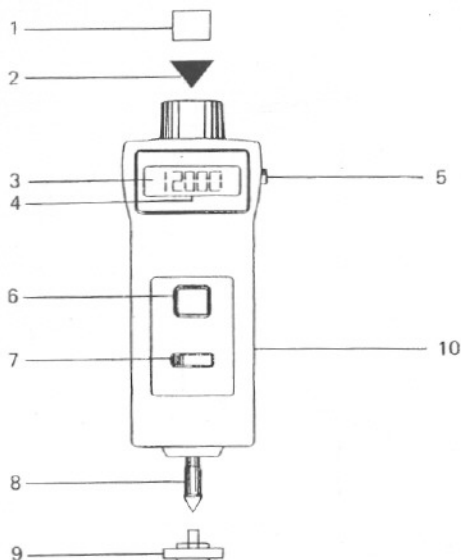

Figure 1
- (1) When it is necessary to replace the battery (battery voltage less than approx. 4.5V), "LO" will appear on the display.
- (2) Loosen the screws of the battery cover 4-10 (fig. 1), remove cover and remove the batteries.
- (3) Install fresh batteries correctly into the case. Replace battery cover and screws.